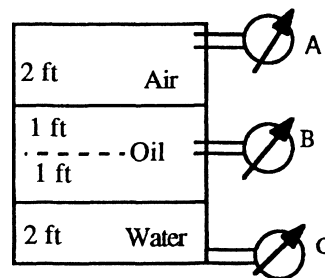

Fig. P2.15
**2.15** In Fig. P2.15 all fluids are at 20°C. Gage A reads 15 lbf/in2 absolute and gage B reads 1.25 lbf/in2 less than gage C. Compute (a) the specific weight of the oil; and (b) the actual reading of gage C in lbf/in2 absolute.